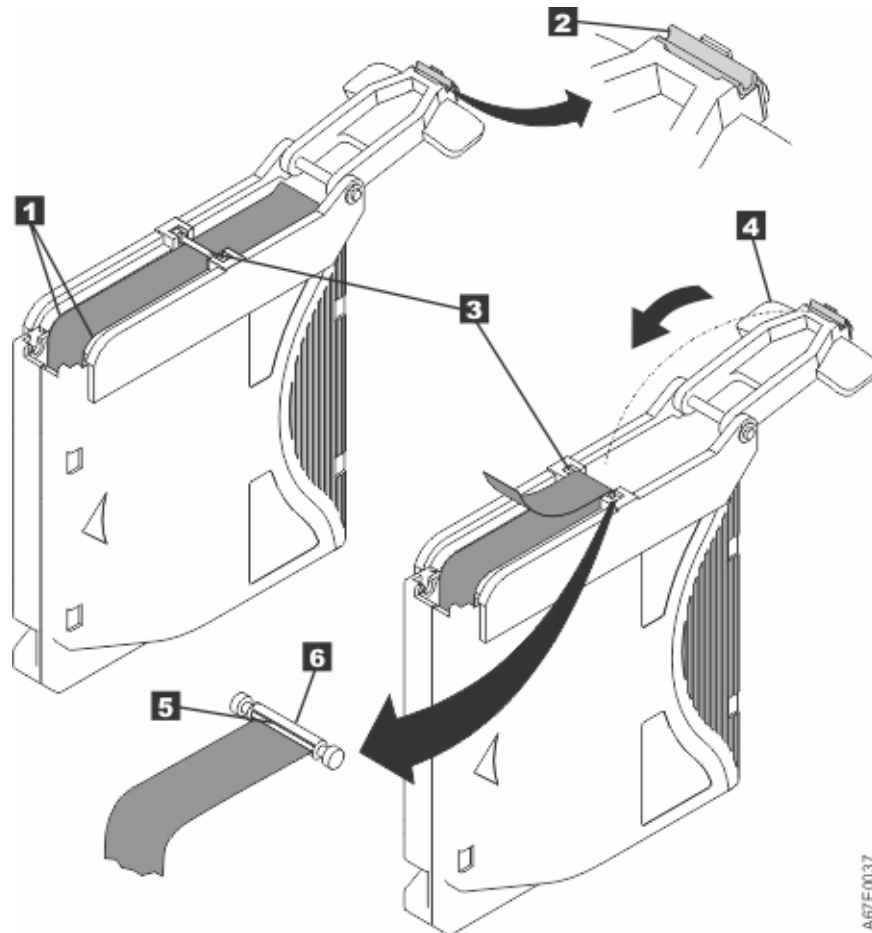

Figure 18. Attaching the leader pin to the tape
7. Position the tape in the alignment groove of the leader pin attach tool (see 1 in Figure 18 on page 72).
8. Place a new C-clip into the retention groove (2 (Figure 18 on page 72) on the leader pin attachment tool and make sure that the clip's open side faces up.
9. Place the leader pin (from step "6" on page 71) into the cavity (3 (Figure 18 on page 72) of the leader pin attach tool.
10. Fold the tape over the leader pin and hold it with your fingers (see Figure 18 on page 72).